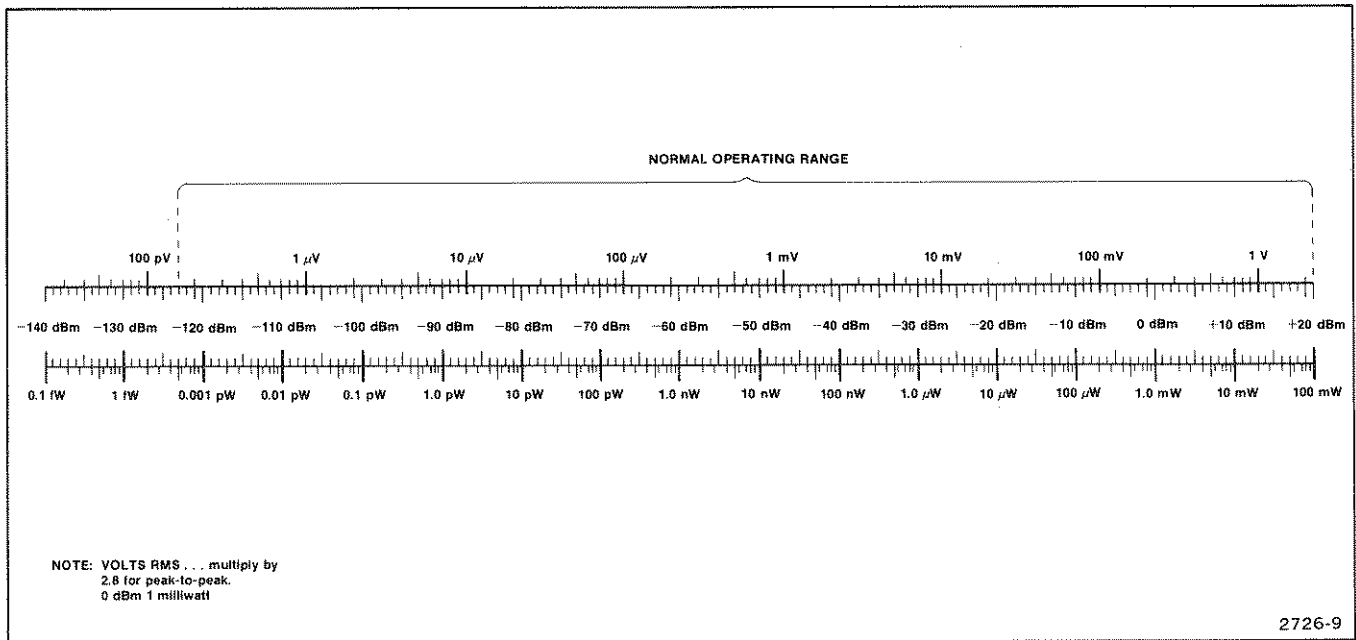

Fig. 3-9. Volts—dBm—watts conversion chart for 50 Ω impedance.
**Amplitude Conversion.** The 496/496P reads out signal levels in dBm. A conversion chart shown in Fig. 3-9 provides a way to determine input signal levels from a voltage or power source.